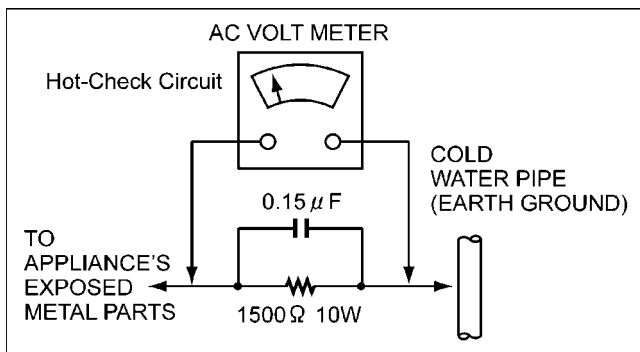

Figure1
## LEAKAGE CURRENT HOT CHECK (See Figure 1)
2. Connect a  $1.5k\Omega$ , 10W resistor, in parallel with a  $0.15\mu F$  capacitor, between each exposed metallic part on the set and a good earth ground such as a water pipe, as shown in Figure1.